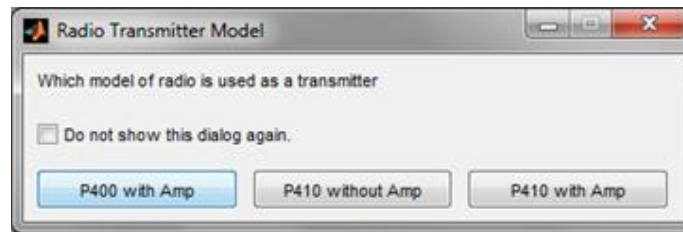

Fig. A-2: Selection transmit waveform shape
- V. Once you have made your selection, CATCIR will prompt you to indicate what sort of radio you were using to generate waveforms. See **Figure A-2**. This is important because each of the radio transmit waveforms have slightly different shapes. Since the CIRs produced are done so by deconvolving the received waveform with the transmitted waveform (or “template” waveform), this step insures that the deconvolution is performed with the correct transmit waveform.